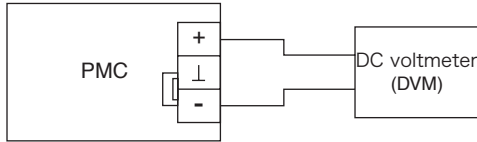

Fig. 5-3 Connection for voltage system calibration
Readjust the output voltage at full scale in the following procedure. See page 50, Test equipment required for calibration for the test equipment required and environment. See Fig. 5-3 for the connection of the equipment.
2. Connect the cables as shown in Fig. 5-3.